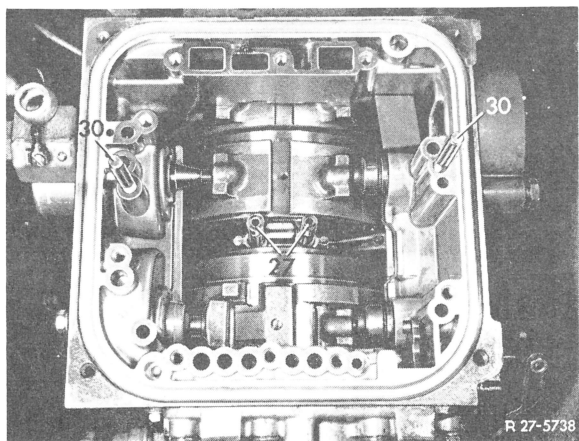

Fig. 4
5 Remove plug pipes with sealing bushes and pull sealing bushes (27) from plug pipes (Fig. 4).
6 Provide plug pipes on both sides with new sealing bushes (27) and insert into transmission. Screw two studs (30) into transmission housing (Fig. 4).